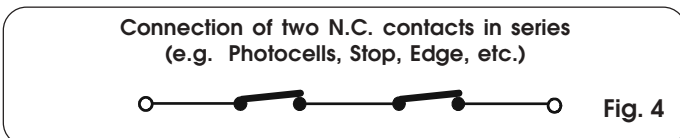

Fig. 4
**N.B.** If two or more safety devices have the same function (opening, closing, opening and closing, edge), the contacts must be connected to each other in series (fig. 4).
If the **Opening safety devices** are engaged when the gate is closed, they prevent the opening movement. To install several safety devices, connect the N.C. contacts in series (fig. 4).
To install several safety devices, connect the N.C. contacts in series (fig. 4).
To install several STOP devices, connect the N.C. contacts in series (fig. 4).